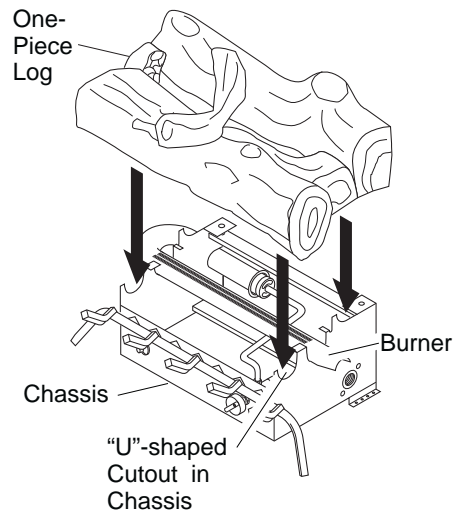
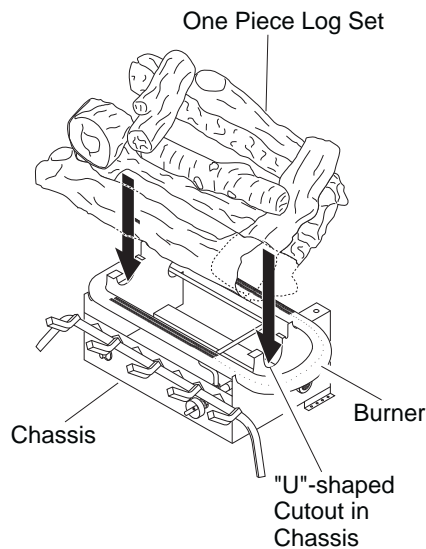

Figure 17 - Installing Vintage Oak One-Piece Log Set
Figure 18 - Installing Golden Oak or Birch One-Piece Log Set
1. Place one-piece log set on grate to fit as illustrated in Figure 17 for Vintage Oak model and Figure 18 for Golden Oak or Birch models. Make sure bottom of front log is in front of "U"-shaped cutout in center of chassis (see Figure 17 for Vintage Oak model and Figure 18 for Golden Oak or Birch models). **Note:** 36" and birch models have more features but fit on the chassis the same. Log will fit securely on chassis. **IMPORTANT:** Make sure log does not cover any burner parts.